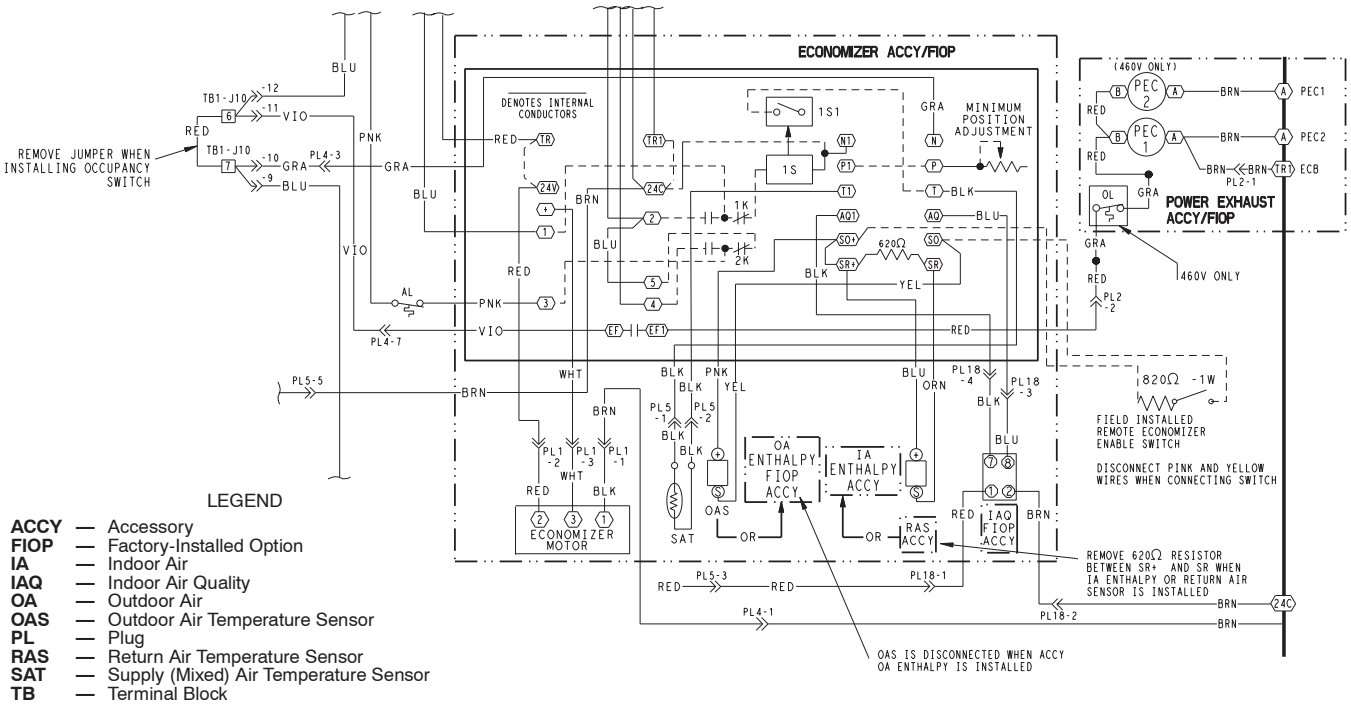

Fig. 24 – EconoMiSer IV Wiring
Determine the EconoMiSer IV control mode before installing sensors and accessories. Different sensors are required for different control modes, and a number of accessories are available. Refer to Table 5. The EconoMiSer IV is supplied from the factory with a mixed air temperature sensor and an outdoor air temperature sensor. This allows for operation of the EconoMiSer IV with outdoor air dry bulb changeover control. Additional accessories can be added to allow for different types of changeover control and operation of the EconoMiSer IV and unit. See Fig. 24 for wiring.
If a separate field-supplied transformer is used to power the IAQ sensor, the sensor must not be grounded or the EconoMi\$er IV control board will be damaged. (See Fig. 24.)
3. Ensure that the factory-installed jumper is in place across terminals P and P1. If remote damper positioning is being used, make sure that the terminals are wired according to Fig. 24 and that the minimum position potentiometer is turned fully clockwise.